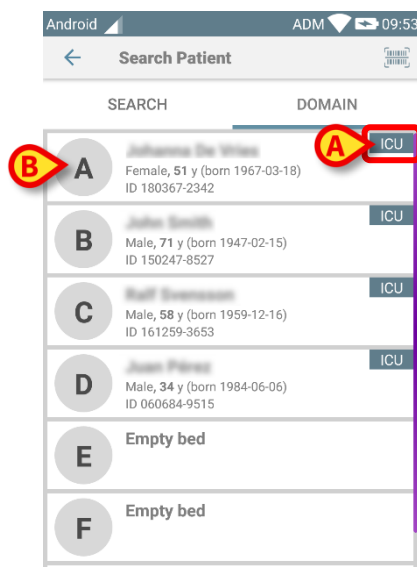
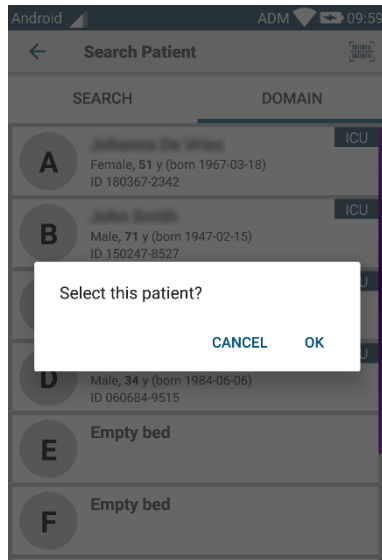

Fig 182
Fig 183
- Touch the “**DOMAIN**” tab. The following window shall appear (Fig 182)
In Fig 182 all the patients are listed, without regard to their domain. The label on the top right corner of each tile highlights the domain of the patients (Fig 182 **A**).
- Touch the tile indicated in Fig 182 **B**. User confirmation is required (Fig 183).